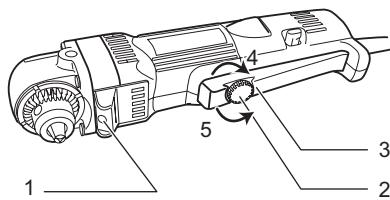

Fig.1
► Fig.1: 1. Lamp 2. Speed control screw 3. Switch lever 4. Higher 5. Lower